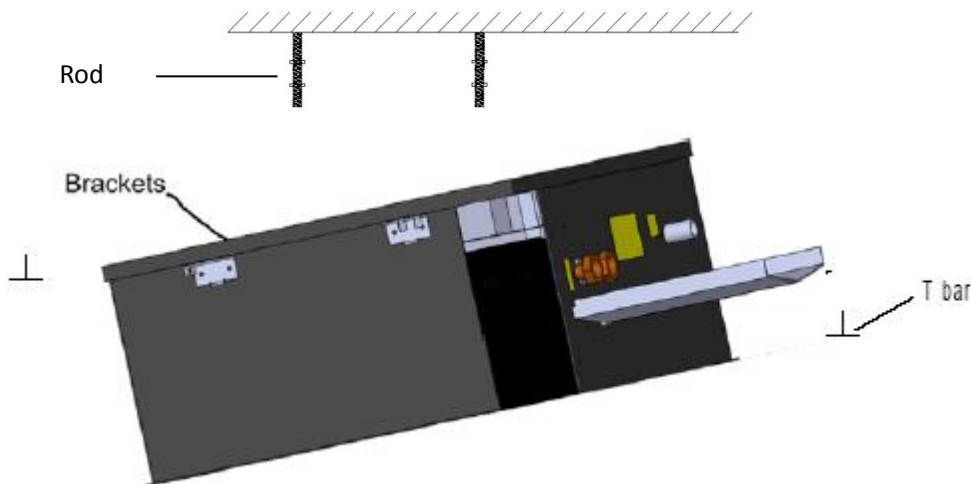
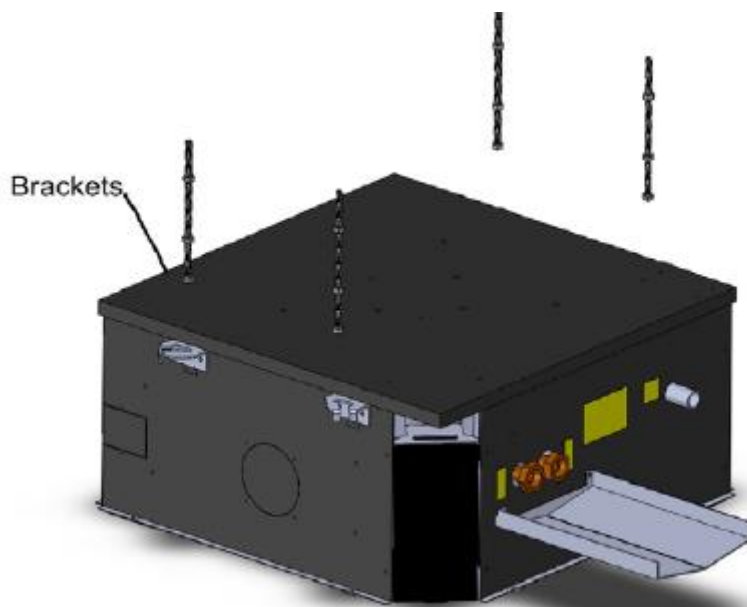
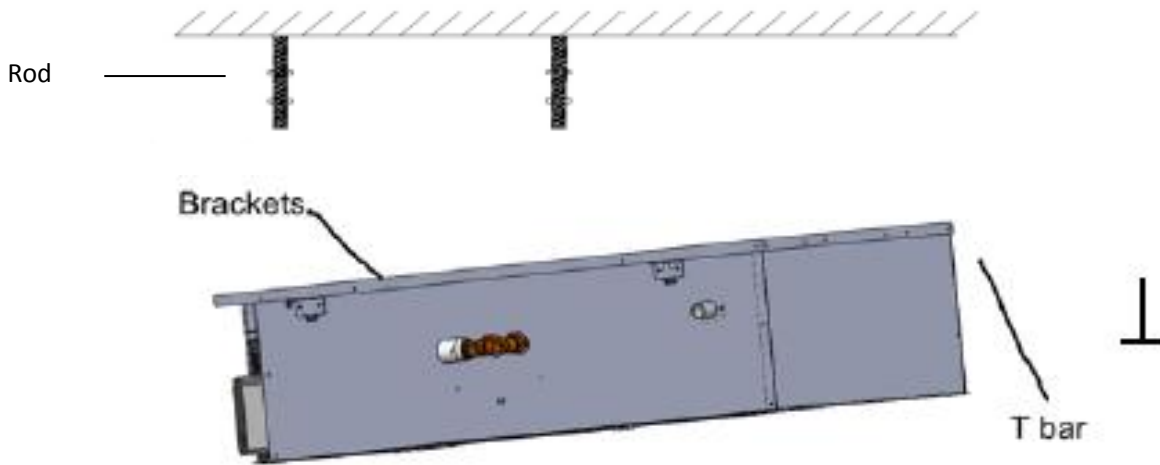
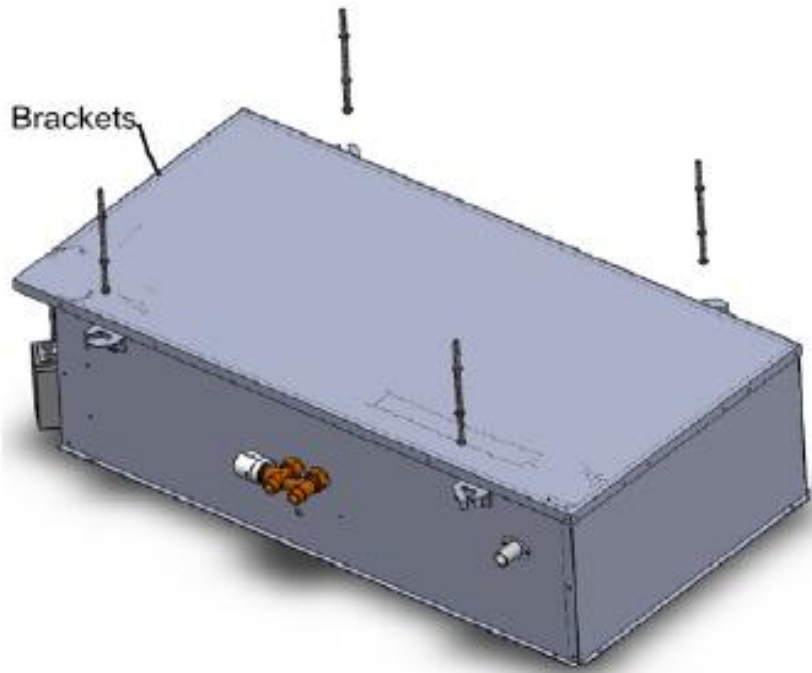

Figure 21
Figure 22
Figure 24
Figure 25
2. Incline the unit (Figure 21, Figure 22, Figure 24 and Figure 25) and insert it into the false ceiling. Insert the rods into the bracket slot. With minimum false ceilings clearance, it might be necessary to remove some T bars of the false ceiling temporarily to ensure there is enough clearance.